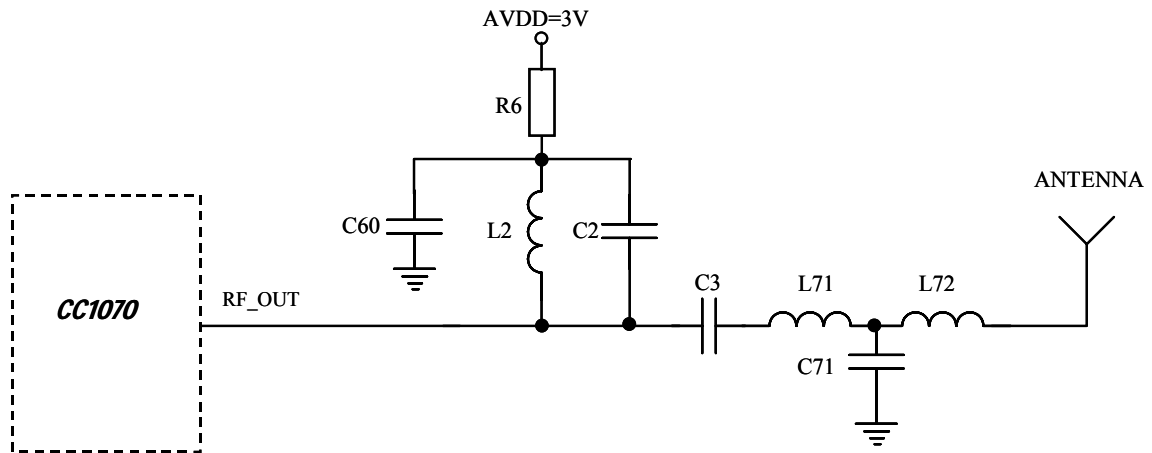

Figure 14. Output matching network
When designing the impedance matching network for the *CC1070* the circuit must be matched correctly at the harmonic frequencies as well as at the fundamental tone. A recommended matching network is shown in Figure 14. Component values for various frequencies are given in Table 15. Component values for other frequencies can be found using the SmartRF® Studio software.
**Table 15. Component values for the matching network described in Figure 14 (DNM = Do Not Mount).**